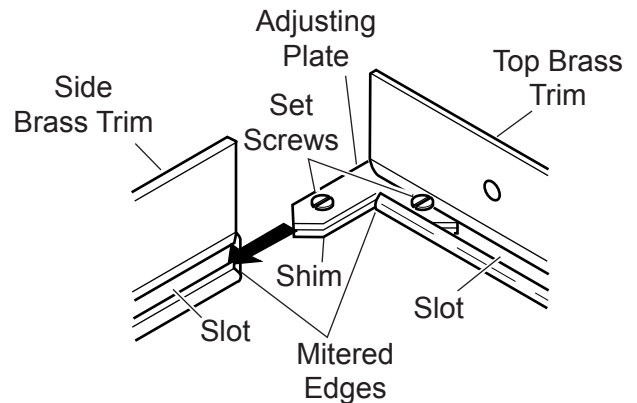

Figure 4 - Assembling Bras Trim
1. Remove brass trim from protective packaging. Remove two (2) 90°-angled mounting brackets and two (2) 90°-angled shims.
3. Slide one (1) 90°-angled bracket (with attached screws) and one (1) 90°-angled shim in the outside corner slot where the top and side trims meet. Next, slide another bracket and shim to the inside corner slot. See Figure 4.